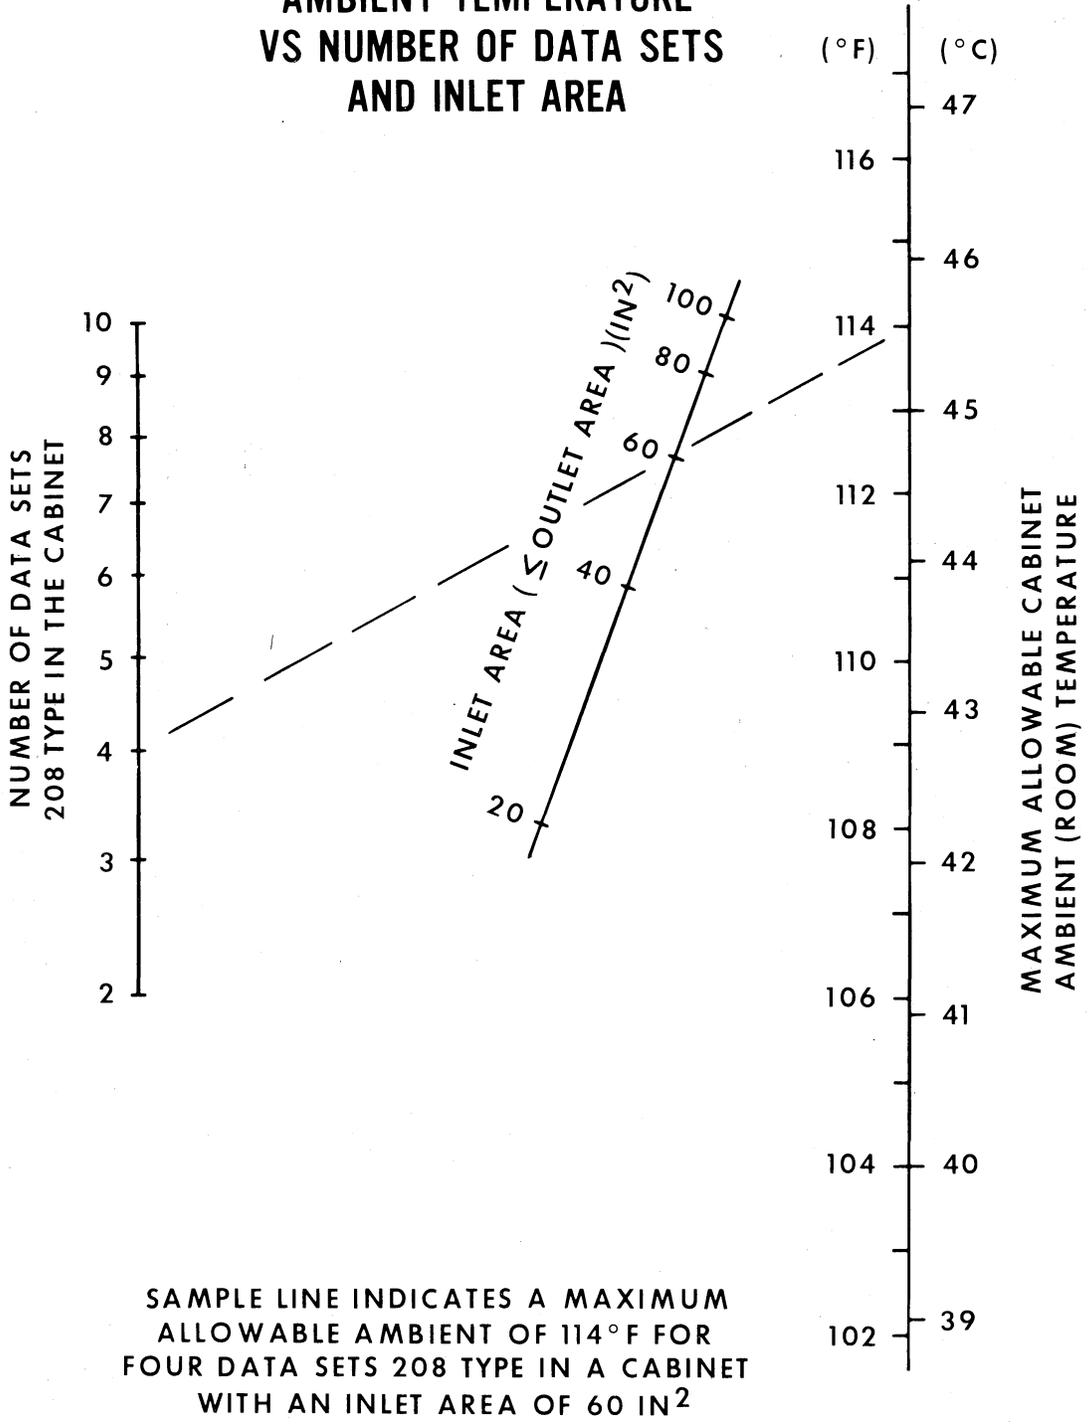

Fig. 1
**5.02** When the data sets are mounted in a cabinet, the maximum cabinet ambient temperature should be limited as indicated in Fig. 1.